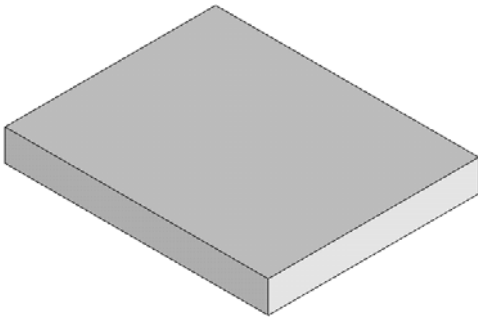

Figure 16-151 Base feature
4. Extrude the sketch to a distance of 30 mm; the base feature of the model is displayed, as shown in Figure 16-151.